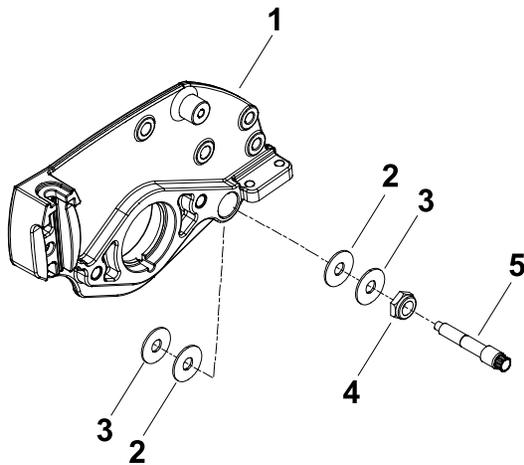

Figure 8
3. Loosen the locknuts on each bedbar pivot bolt and remove the bedbar pivot bolts, metal washers, and plastic washers from the side plates (Figure 8).